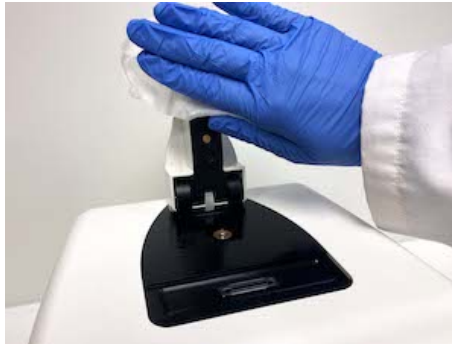

Figure 7.
3. Wipe down the black metal parts of the arm and the upper sample surface (Figure 7).